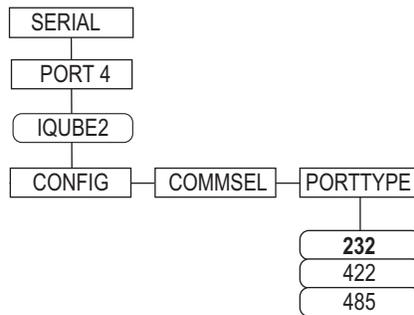

Figure 3. PORTTYPE Parameter
- Change the Port 4 PORTTYPE parameter to 422 (see Figure 3).